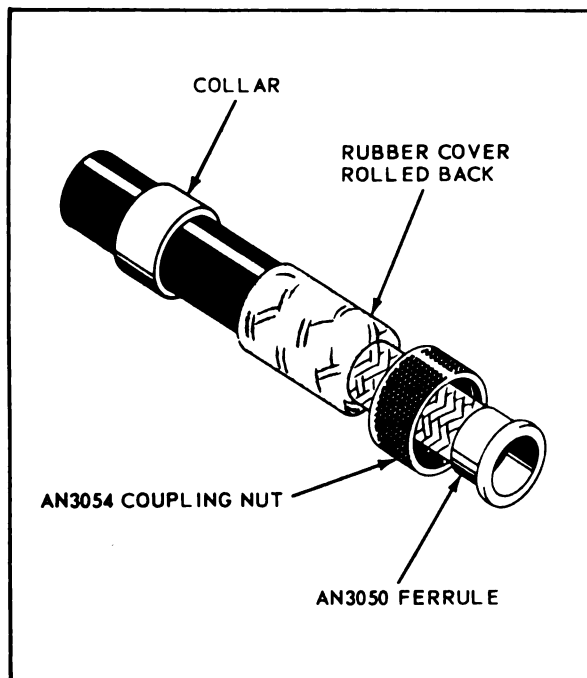

Figure 11-20. Rubber Covered Conduit Prepared for Breeze Machine
s. Roll rubber cover of conduit back in place, and slide conduit collar into position as shown in figure 11-20. Temporarily insert 1/32 inch spacer between conduit collar and back of nut.